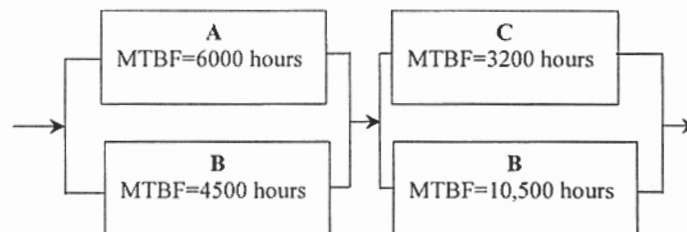

Figure 4.1
- d. Consider the system comprising of 4 components shown in Fig. 4.1. Each component has an associated MTBF as given in the figure.
Determine the reliability,  $R$ , of the system in Fig. 4.1 if it is expected to operate for 1000 hours. (6)